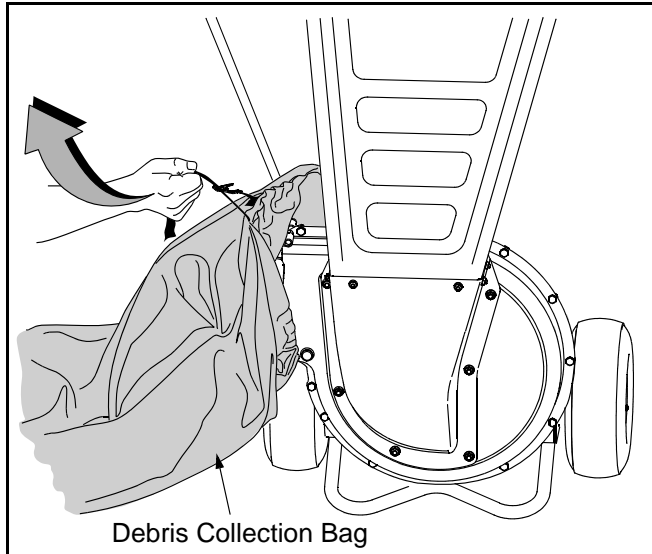

Figure 2
- Empty the bag and reattach to the discharge chute opening. Refer to Figure 2.